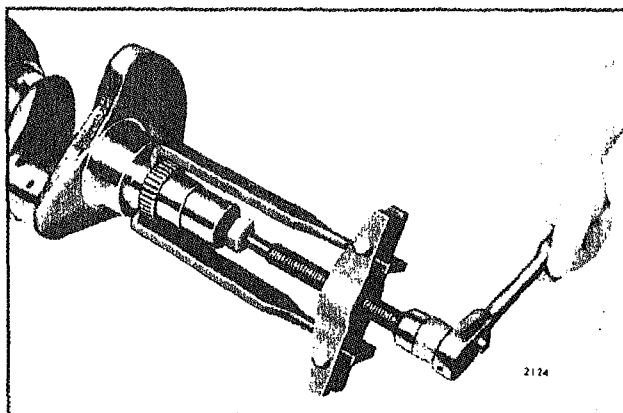

Fig. 7 - Removing Oil Pump Drive Gear
1. Thread the crankshaft pulley retaining bolt in the end of the crankshaft (Fig. 7).